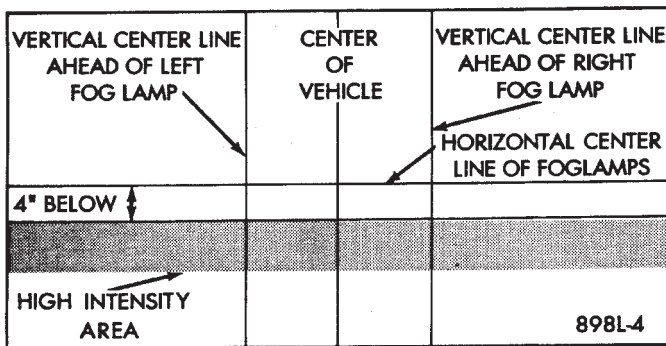

Fig. 34 Fog Lamp Beam Pattern
(1) Position the vehicle in dark area with a level floor and with a screen (wall) that has a white surface.
(2) Mark a reference line on the floor 7.62 meters (25 feet) away from and parallel to the "aiming" screen/wall.
(3) Position vehicle with the fog lamps located directly above the 7.62-meters (25-foot) reference line.
(4) Equalize all the tire pressures.
(5) Rock the vehicle from side to side to stabilize the springs and shock absorbers.
(6) Refer to Figure 34. Use tape to attach a vehicle centerline on the screen/wall. Ensure that it is aligned with and represents the centerline of the vehicle.